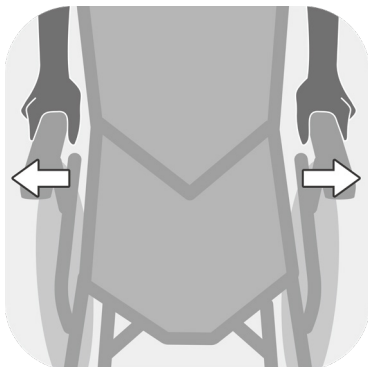

Figure 4.7
4.1.3.1 Stand at the side of the wheelchair as you prefer, hold the armrests and pull outwards. (See Figure 4.7)